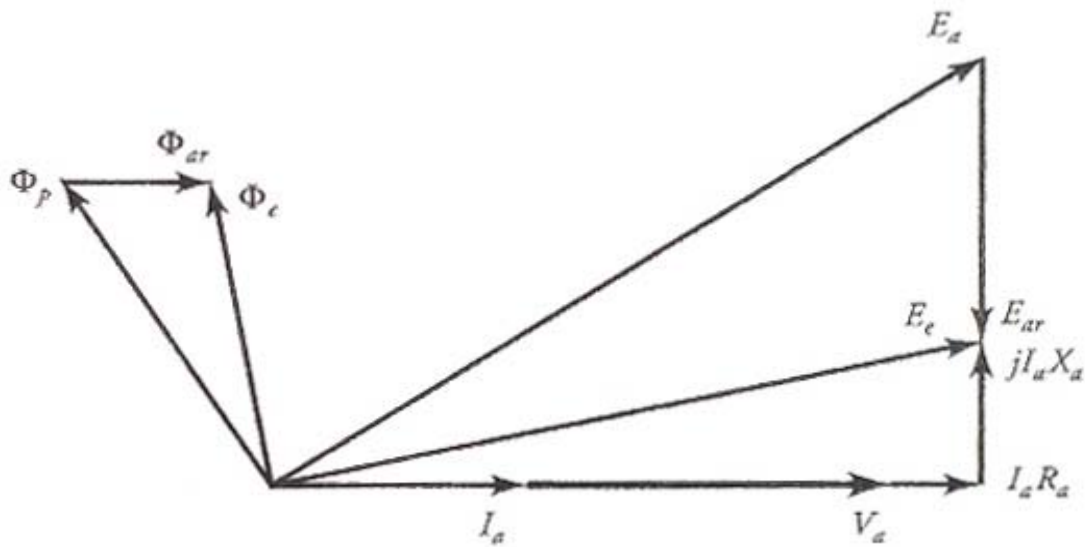

Figure 2: Phasor diagram depicting the effect of armature reaction when the power factor is unity.
- (a) If Φ_p is the flux per pole in the generator under no load, then the generated voltage E_a must lag Φ_p by 90° , as shown in Figure 2.